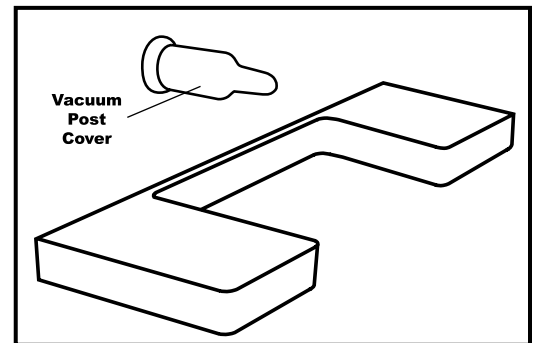

Figure 20
- Place Vacuum Post Cover onto Vacuum Port when Crystal Capsule™ is not installed or when storing (fig. 20).